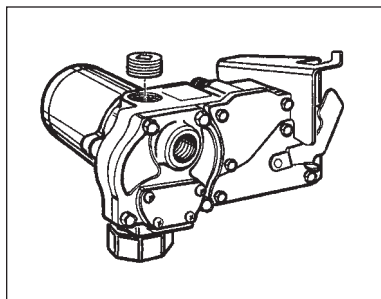

Figure 6
- Using a drive ratchet or extension, remove the pipe plug from the top outlet port. (Figure 6)